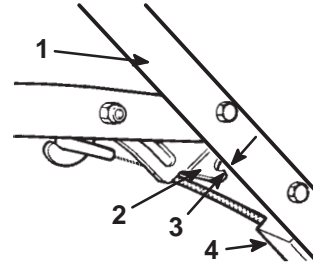

Figure 33
- A. Loosen the nut on the cable bracket (Fig. 33).